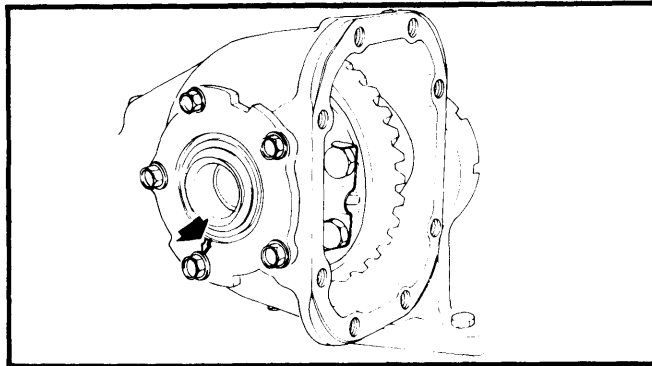

Fig. 12 Aligning Side Retainer During Installation (610 Model Shown)
2) On 610 models, install differential case assembly in gear carrier in reverse order of disassembly. Fit correct shims and "O" ring seal in both side retainers in carrier. Arrow should point as shown in Fig. 12.